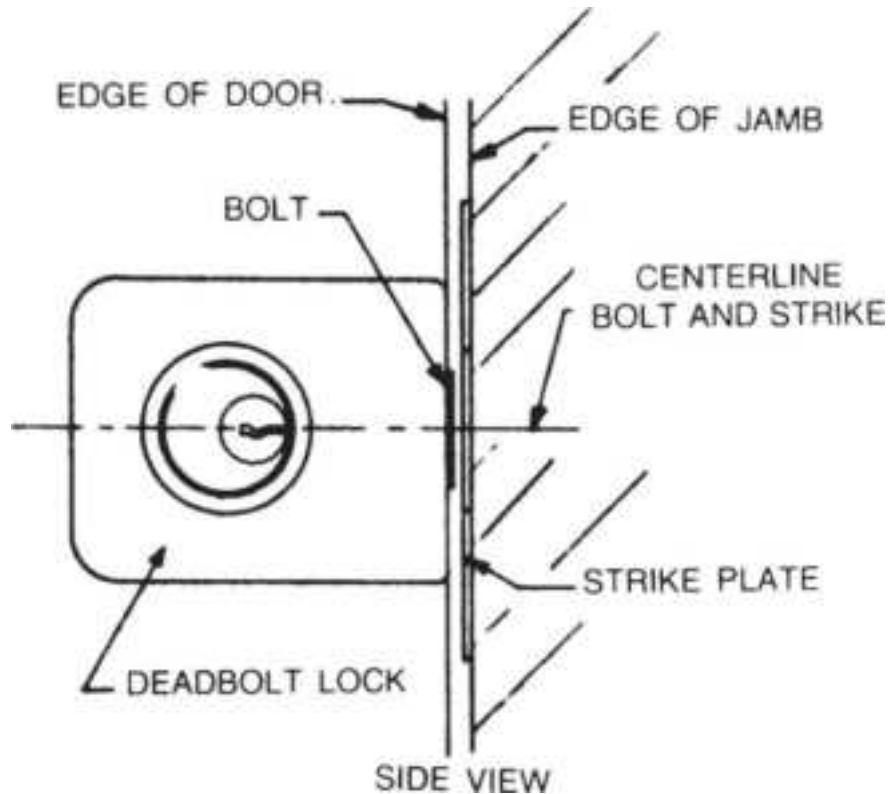

**Figure 13.48** Line up the strike plate to the locking bolt. (*M.A.G. Engineering and Mfg., Inc.* )
2. Open the door. Place the strike plate against the door, ensuring that it lines up with the bolt mark centered on the strike plate hole (Fig. 13.48 ).